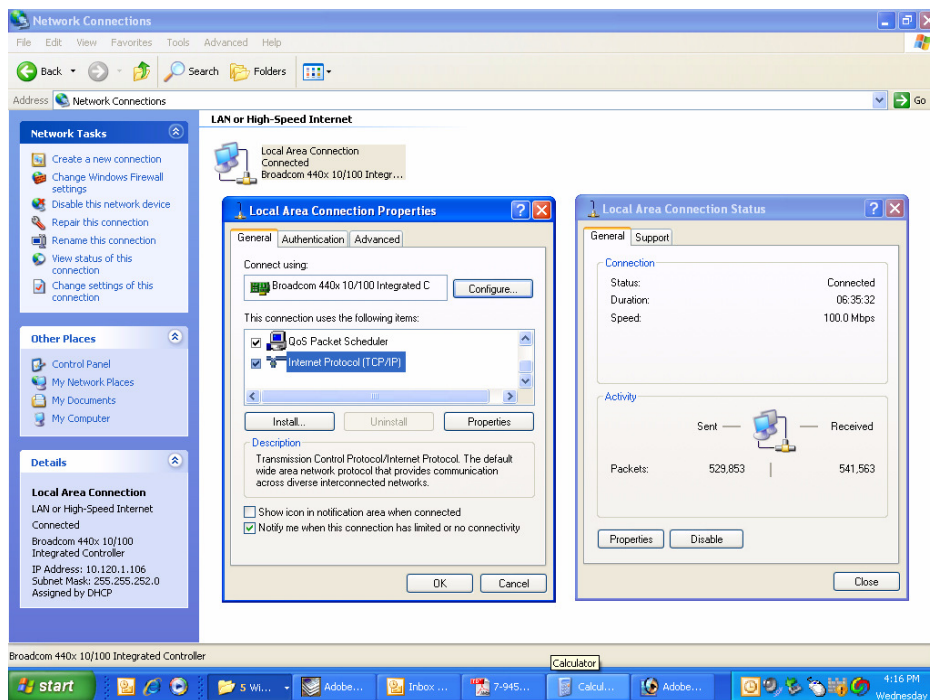

Figure B5: Make sure the “Internet Protocol (TCP/IP)” choice is highlighted. Then select “OK”.
- 6) The "Local Area Connection Properties" box will open. Use the arrow buttons to scroll down the list until the "Internet Protocol (TCP/IP)" choice is highlighted as shown in **Figure B5**. Click the "Properties" tab at the right-center of the box.